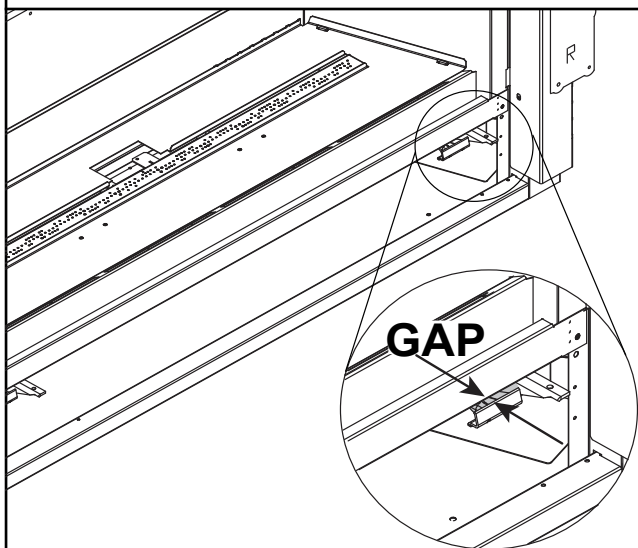

Figure 4.1 Fixed Glass Assembly
2. The glass assembly has two upper spring latches and two lower spring latches. See Figure 4.1. Locate the two spring latches that are on the upper left and right of the fireplace.
Note: Observe the presence of a space or gap between the glass latch and the front of the appliance where the bottom of the glass assembly is positioned. This gap is designed for positive placement when replacing the glass assembly. See Figure 4.1.
The bottom glass latches have been designed to create a small gap between the glass clip and the face of the appliance. See Figure 4.1.